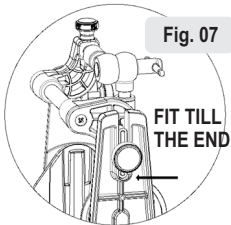

Fig. 07
07- Articulator assembly: When fitting the transfer set support (11) in the articulator, take it to the end of the groove to guarantee the register position and then lock the screw (fig.07).